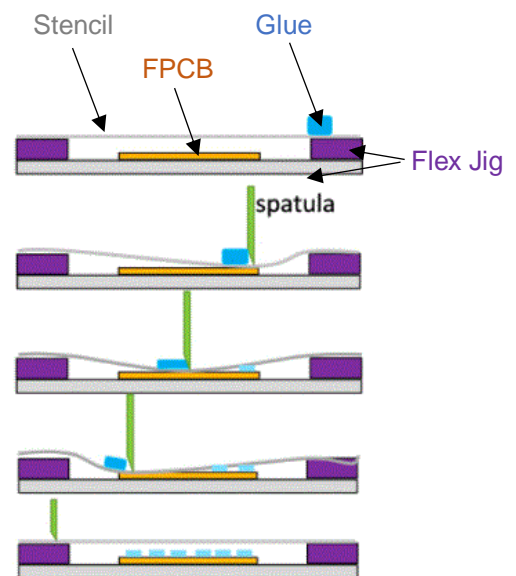

Fig.23 Adhesive application to FPCB
4. Glue applied to the stencil pos.5 (Fig.23)
5. Apply glue to FPCB with spatula pos.3, according to the (Fig.23)